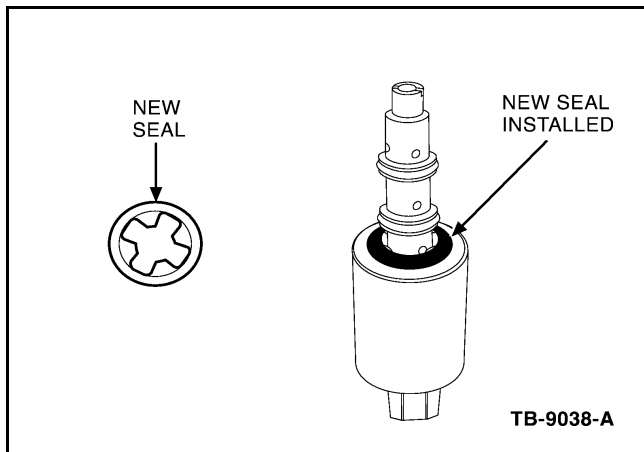

Figure 2 - Article 08-4-11
5. Install the new O-ring included in the Pressure Sensor Kit, on the solenoid valve. (Figure 2)